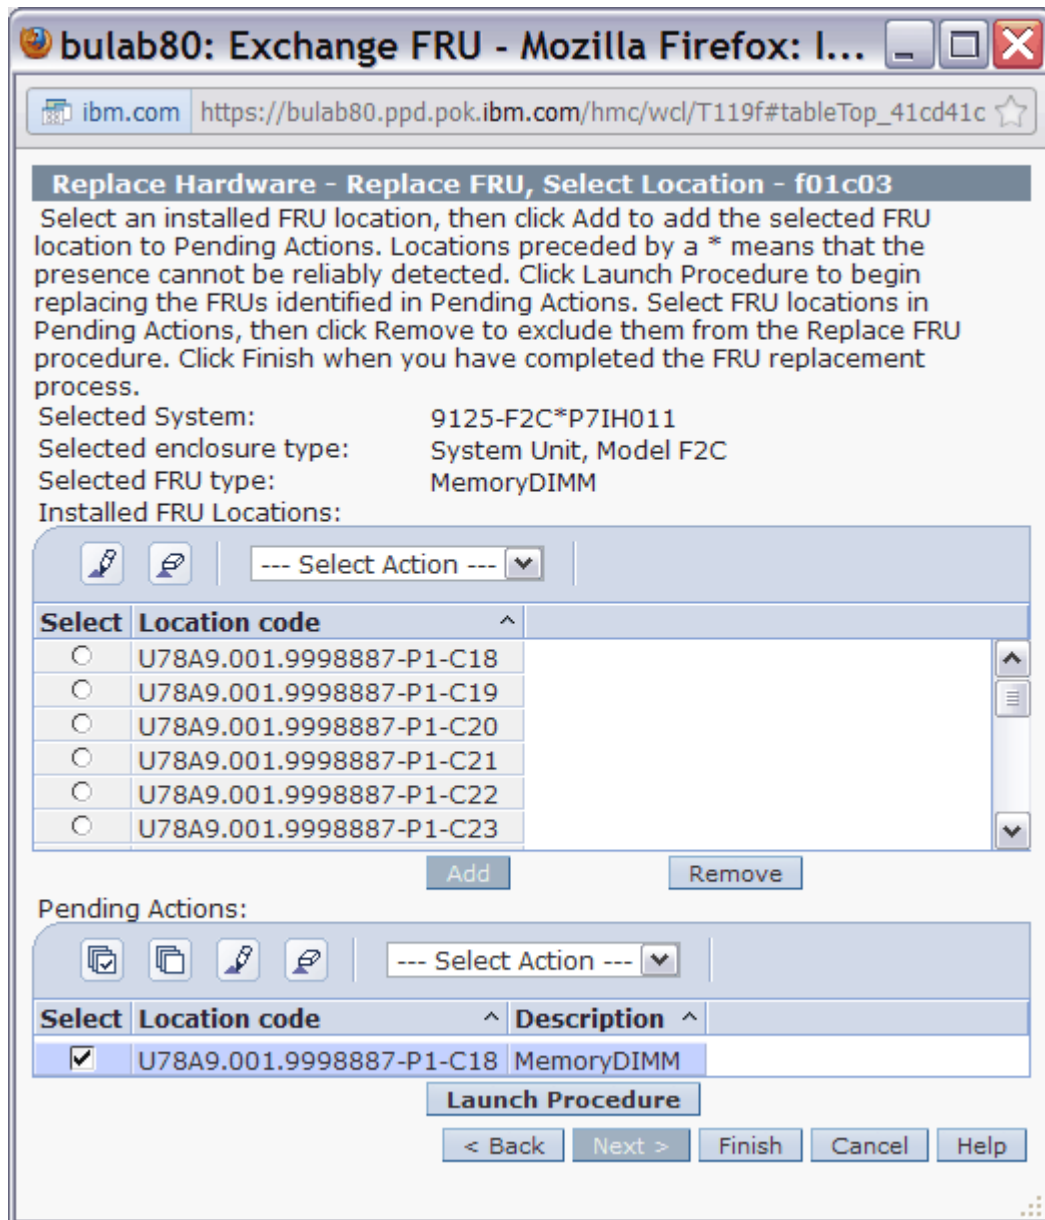

Figure 9 Pending Actions Panel
STEP 14 In the **Pending Actions** list, place a checkmark in the **Select** column for the CEC Drawer to be serviced then *click* the **Launch Procedure** button. See Figure 9.